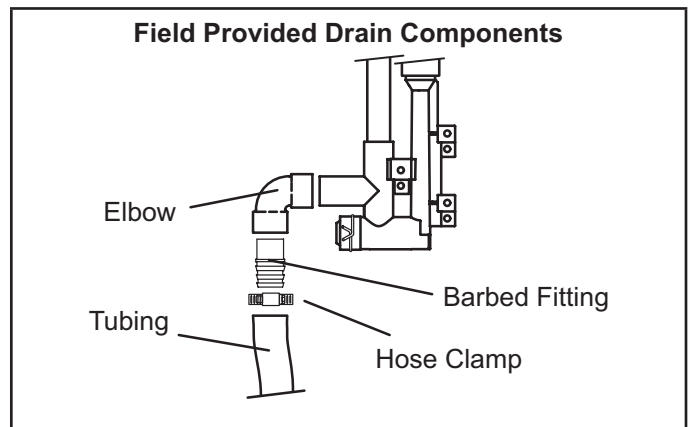

FIGURE 44
**NOTE** - Appropriately sized tubing and barbed fitting may be used for condensate drain. Attach to the drain on the trap using a hose clamp. See FIGURE 44.